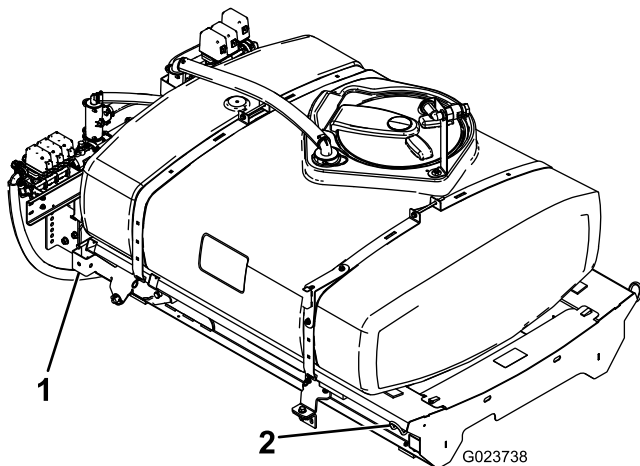

Figure 8
1. Using a lift, raise the tank skid assembly (Figure 8) and position it over the vehicle frame with the pump and valve assemblies facing rearward.